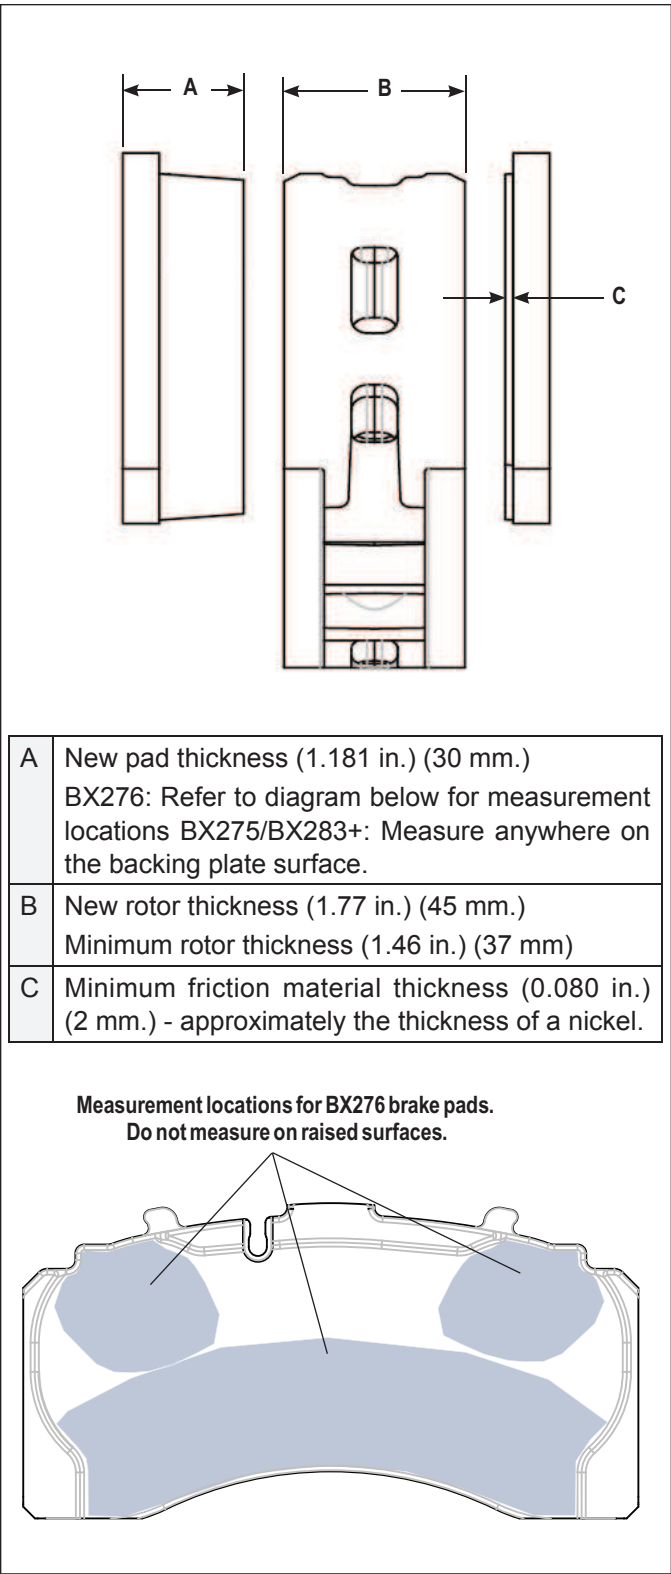

Figure 22 – Pad and Rotor Dimensions
See Figure 22 for initial brake pad and rotor dimensions, as well as minimum acceptable dimensions.
4.3.1 See Figure 22. If the thickness of the friction material—dimension “C”—is less than 0.080 in. (2 mm.), the pads must be replaced.
4.4.1 Measure the thickness of the brake rotor at the thinnest point (Dimension “E” in Figure 22). Avoid measuring near the edge of the rotor as minor burrs may result in an inaccurate measurement. **For Bendix brand rotors, replace the rotor when the minimum thickness of 1.46 in. (37 mm.) is reached.** For other brands of rotors, refer to the rotor manufacturer’s guidelines.